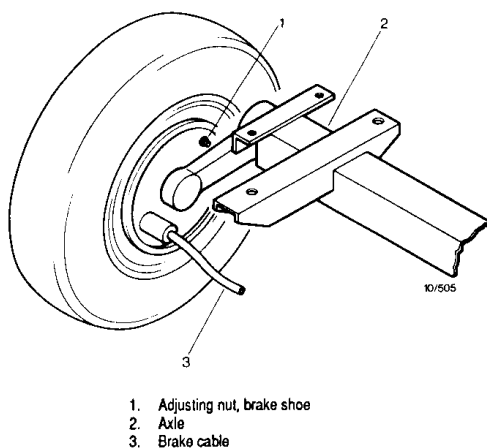

Fig. 12. Wheel assembly
3. While turning the wheel in the sense of forward towing, turn the brake adjusting nut (1-Fig. 12) clockwise until the brake shoes block the drum. Then back off the nut, with the wheel still turning in the same direction, until the drum rotates freely.